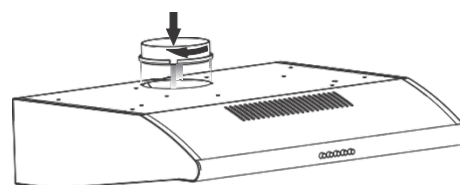

Fig. 15
5. Install the plastic collar found in the installation accessories to the duct exit of the product. Line up the tabs on the plastic collar with the tabs on the duct exit and turn in clock- wise direction (Fig. 15).